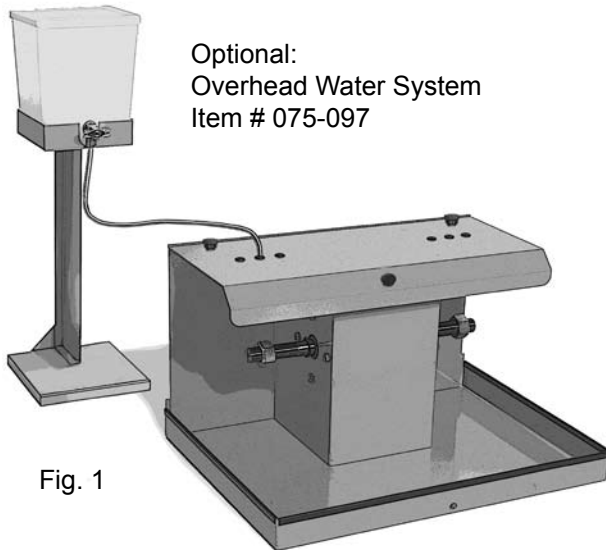
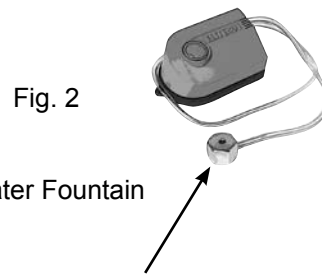

Fig. 1
Fig. 2
- A gravity feed water system (Fig. 1) or an under wheel water spitter with pump (Fig. 2) should be used to supply water to the wheels during operation.